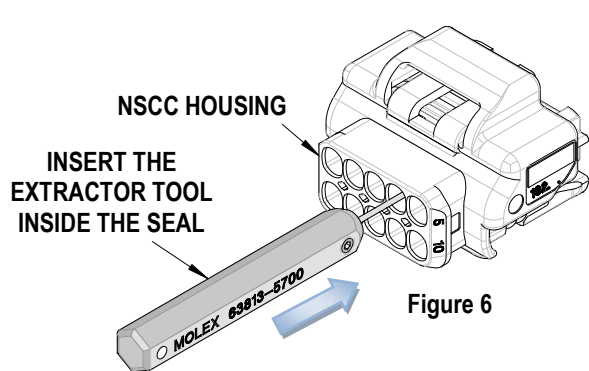

Figure 6
1. Insert the extractor tool into the seal plug hole. See Figure 6.